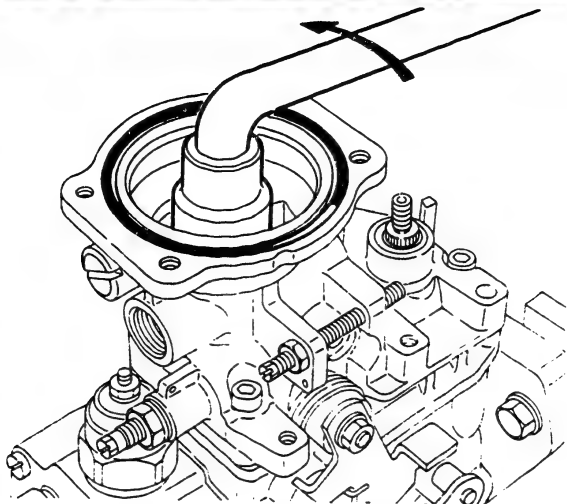

Fig. 61 Removing the locknut
9. Remove the locknut (67/33) together with the washer (67/32) using a socket wrench (SW24) and handle. (Fig. 61)